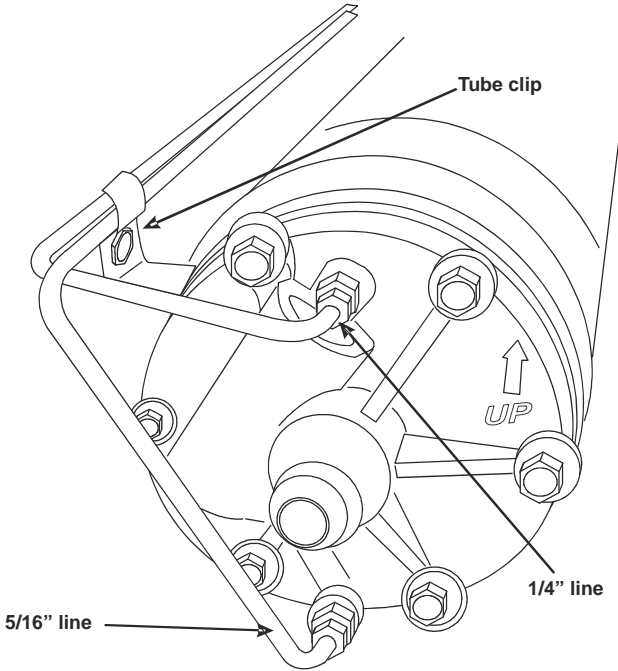

Figure 2.2
- Thread the fittings on the 1/4 and 5/16 inch steel tubes into the matching fittings on the rear of the tank. Tighten the fittings by hand, leaving them loose enough so that the tubes can move easily in the fittings (Figure 2.2).